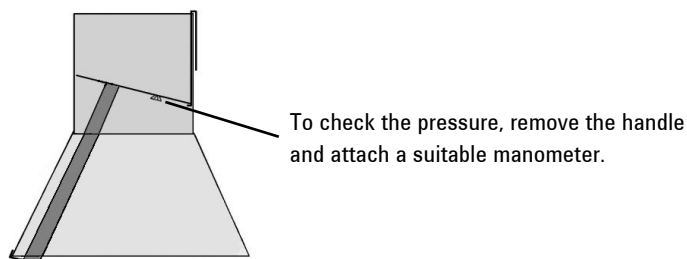

Figure 10. Checking the flow rate through the accessory
- For correct fume extraction, the flow rate through the GTA viewing/fume extraction accessory must be 0.27 m³/min (9.5 cfm). This gives a pressure drop across the device of approximately 0.1 kPa (0.014 psi), when measured between the inside of the extraction duct and the atmosphere, with the GTA viewing/fume extraction accessory fitted to the instrument. Refer to Figure 10.